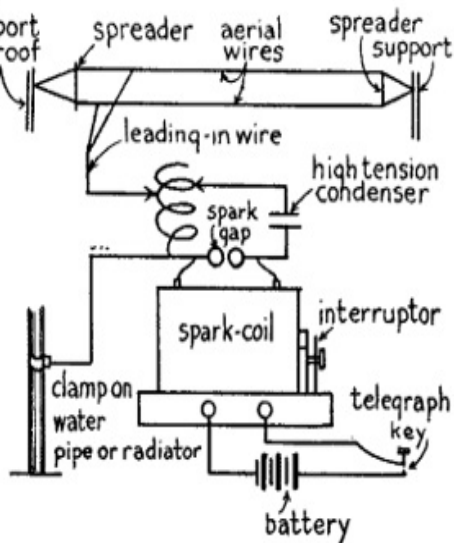

FIG. 2.—Simple Transmitting Set.
The Spark Gap Wireless Telegraph Transmitter.--The simplest kind of a wireless telegraph transmitter consists of: (1) a *source of direct or alternating current*, (2) a *telegraph key*, (3) a *spark-coil* or a *transformer*, (4) a *spark gap*, (5) an *adjustable condenser* and (6) an *oscillation transformer*. Where *dry cells* or a *storage battery* must be used to supply the current for energizing the transmitter a spark-coil can be employed and these may be had in various sizes from a little fellow which gives 1/4-inch spark up to a larger one which gives a 6-inch spark. Where more energy is needed it is better practice to use a transformer and this can be worked on an alternating current of 110 volts, or if only a 110 volt direct current is available then an *electrolytic interrupter* must be used to make and break the current. A simple transmitting set with an induction coil is shown in *Fig. 2*.